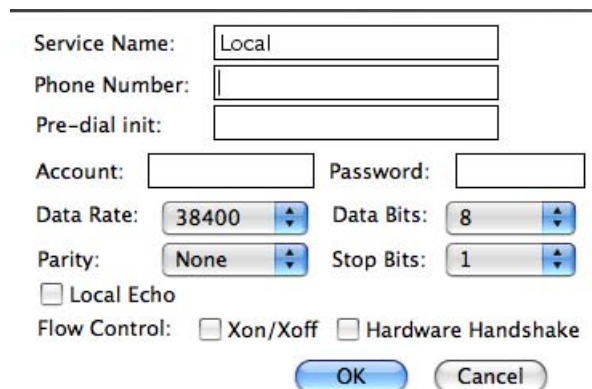

Figure 5. Connection Configuration
3. Configure the baud rate and hardware flow control settings by selecting Setting-> Connection from the menu and set the options as shown in Figure 5. Ensure that the Hardware Handshake flow control option is selected for use in a BeeStack application.